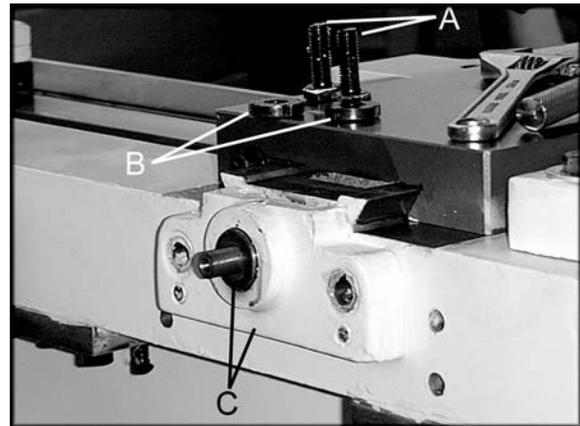

Figure 1
1. Remove two hex bolts (A, Figure 1) from the bracket.
2. Remove the two cross feed nuts (B, Figure 1) while holding the cross feed handle.
3. Remove the outer bearing and block (C, Figure 1).